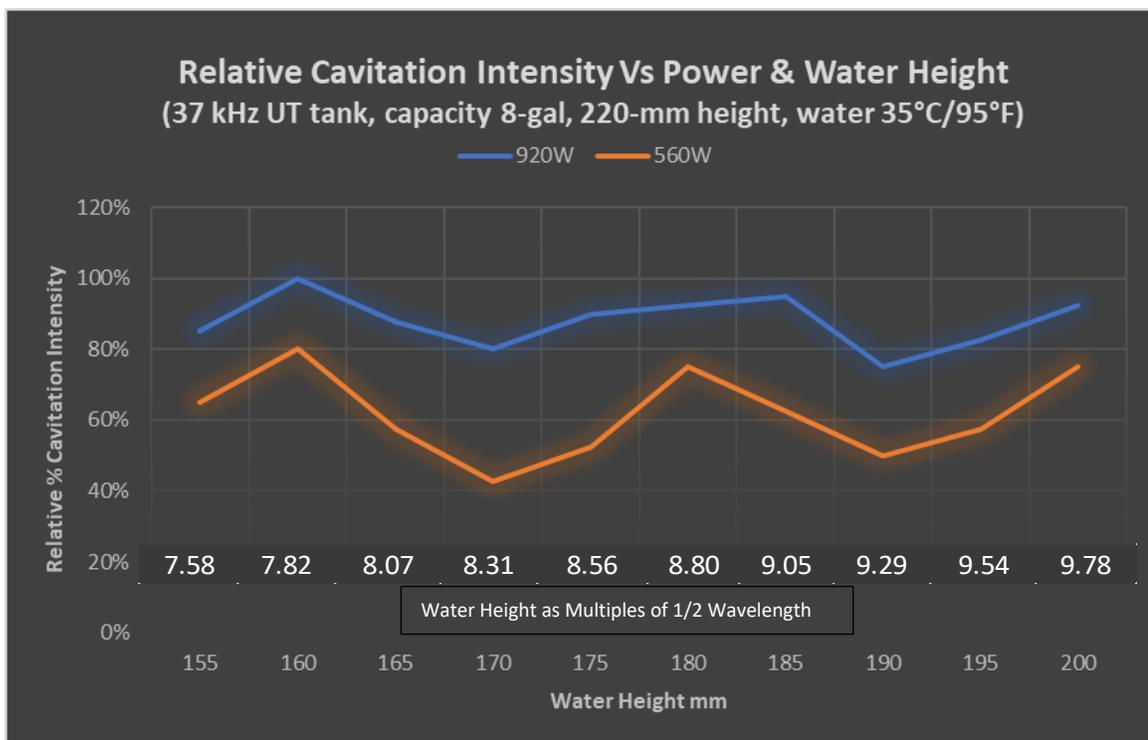

Figure 54 – Relative Cavitation Intensity vs Power & Water Height
XIV.1.9 **Tank Water Height.** For bottom firing UCM, the height of water above the transducers can affect the cavitation intensity. In the paper *Observations of water cavitation intensity under practical ultrasonic cleaning conditions*, Bogdan Niemczewski, Tele- and Radio Research Institute, ul. Ratuszowa 11, 03-450 Warsaw, Poland, 18 November 2005 (12), the cavitation intensity in an industrial 8-gallon UCM at two power levels (560W & 920W) and ten (10) different water levels (155 mm to 200 mm) was tested. The results relative to the maximum cavitation intensity recorded are shown in **Figure 54**. **Figure 54** clearly shows the effect of power on cavitation intensity. The effect of water height which can affect standing waves is evident. There is discussion that for the maximum cavitation intensity the water height should be whole multiples of 1/2 the wavelength and the data in **Figure 54** is suggestive of that.